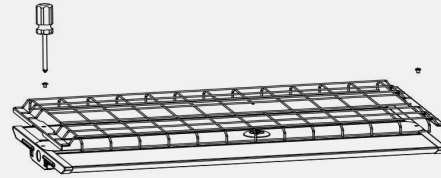

Figure 8
Step2. Place the wire guard on the lamp and fix it with screws. (Figure 8)